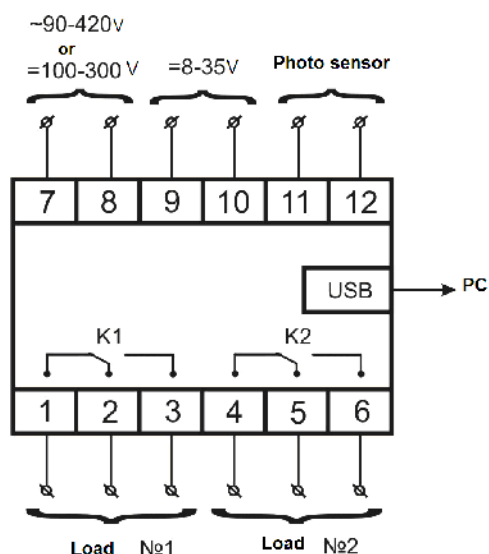

Figure 2.1 - The REV-302 wiring diagram
2.1.2 Connect REV-302 as shown on figure 2.1.